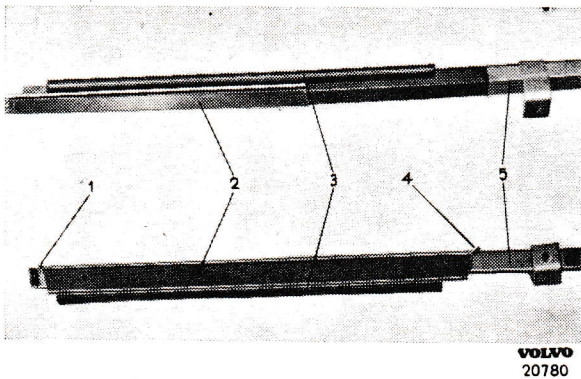

Fig. 26. Weatherstrips.
Before installing the window make sure that the weatherstrips are in good condition. Worn or damaged weatherstrips should be replaced. The weatherstrip on the ventilator in the front run channel is taken out by removing the two nails (1 and 4, Fig. 26) by pulling the retainer (2) from the channel (5). The new weatherstrip
(3) is fitted so that it lies on the front run channel after which the retainer is slid on and the nails driven home.